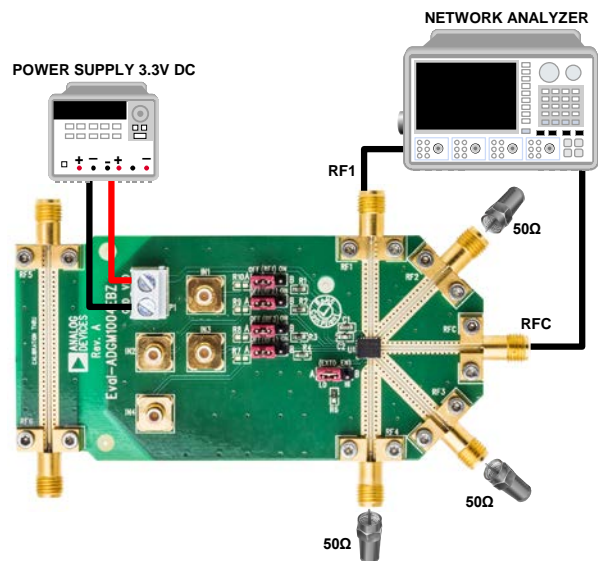

Figure 1.
The control integrated circuit (IC) packaged with the MEMS switch internally generates the voltage required to drive the switch. The internal control IC contains a reference clock signal at a nominal 11.5 MHz. In normal operation, set the (EXTD_EN) link to low, enabling the built-in 11.5 MHz oscillator to enable the internal driver IC voltage boost circuitry. Note that in Figure 1, this link is shown in parentheses on the evaluation board. Set (EXTD_EN) to high to disable the internal 11.5 MHz oscillator and drive V_{CP} with 80 V dc from the external voltage supply. Disabling the internal oscillator eliminates the associated 11.5 MHz noise feedthrough into the switch. With the oscillator disabled, the logic interface pins (IN1 to IN4) still control the switch.
Figure 1 shows the EVAL-ADGM1004EBZ evaluation board of the ADGM1004. Apply a V_{DD} supply to the evaluation board to measure the performance of the switch. The links are set according to the switch under test (see Table 3). After selecting the desired channel and its state, the switch performance data can be collected using a network analyzer. Terminate the RFX edge connectors of unused switch channels into $50\ \Omega$ loads to achieve the full performance of the channel under test.
The EVAL-ADGM1004EBZ, shown in Figure 1, comes with a calibration transmission line, CALIBRATION THRU, on the PCB. This calibration line removes the insertion loss and phase offset of the PCB transmission lines connecting to the switch from the measurement. Figure 2 shows the calibration transmission line and Figure 3 shows its insertion loss and return loss up to 16 GHz. The calibration line is exactly the same length as the distance from any one RFX connector to the RFX pin of the device, plus the distance from the RFC connector to the RFC pin of the device.